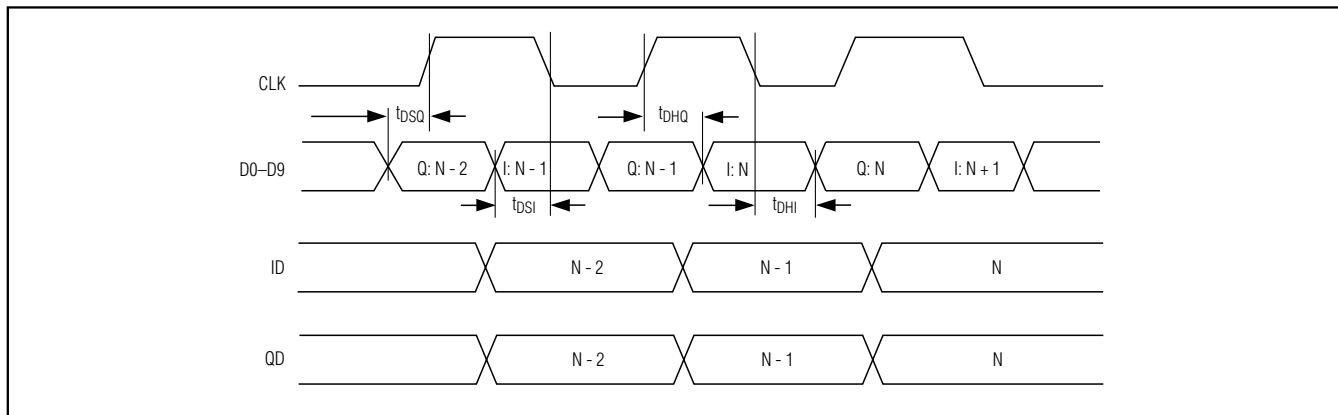

Figure 5. Tx DAC System Timing Diagram
Figure 5 shows the relationship between the clock, input data, and analog outputs. Data for the I-channel (ID) is latched on the falling edge of the clock signal, and Q-channel (QD) data is latched on the rising edge of the clock signal. Both I and Q outputs are simultaneously updated on the next rising edge of the clock signal.